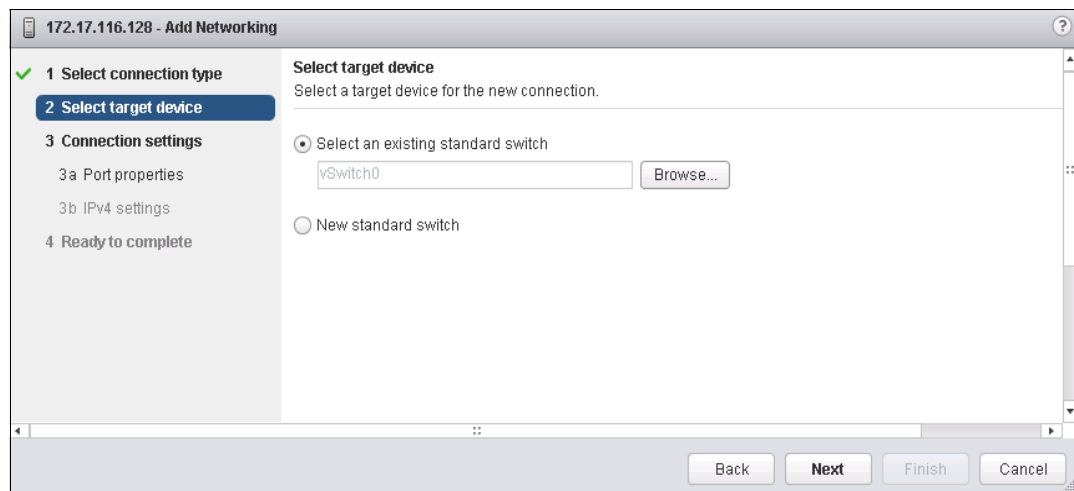

Figure 5-21 Select target device
3. Click **Select target device**, as shown in Figure 5-21.